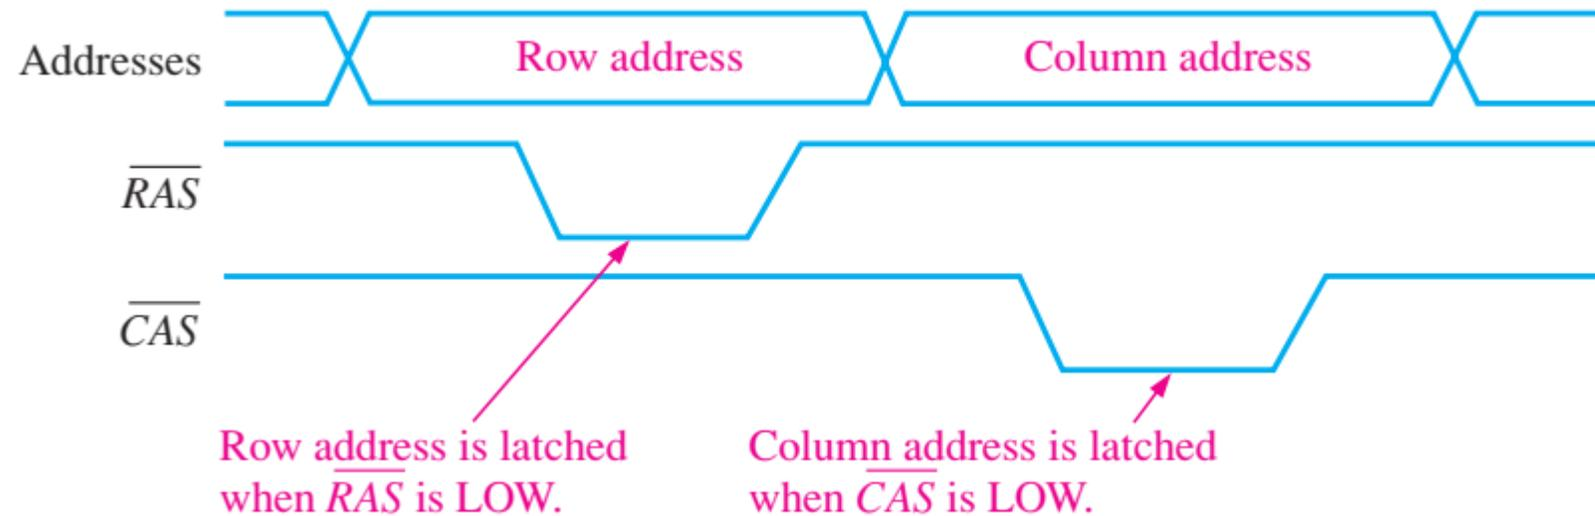

Figure 2-15 Basic timing for address multiplexing.
- At the beginning of each read or write memory cycles, \overline{RAS} and \overline{CAS} go active LOW to multiplex the row and column addresses into the registers, and decoders. For read cycle, the R/\overline{W} input is HIGH. For a write cycle, the R/\overline{W} input is LOW. This is indicated in Fig. 2-15.